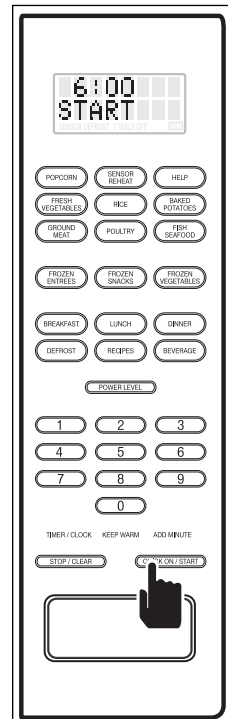

Figure 3-54.
6. Press the QUICK ON/START key and the start time will be appear on the display along with the word "START" (See Figure 3-54). The microwave will now be energized at the time of day specified, for the amount of time specified and at the power level specified. At the end of the cooking time, "END" will flash on the display and the alarm will beep.